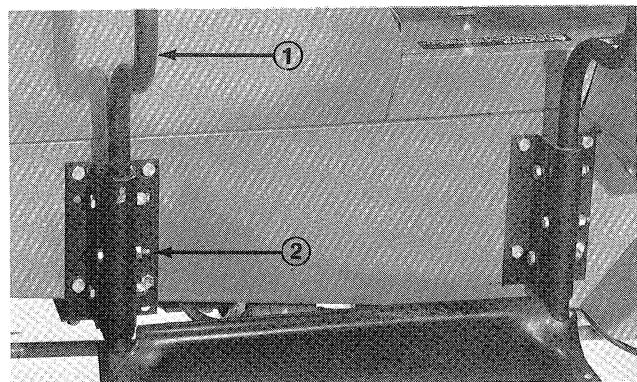

Figure 5
2. Insert legs of upper support tube assy. into lower support tubes and secure with (2) 5/16-18x2-1/4" lg. capscrews and locknuts (Fig. 5).